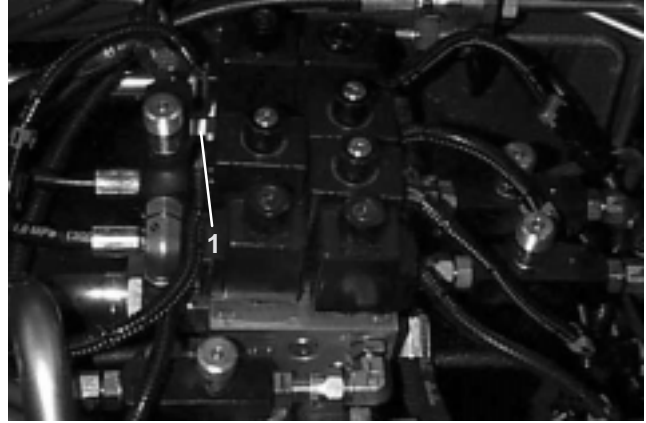

Figure 58
1. Test Port “A” (Fig. 58) is used to assist in trouble shooting the hydraulic circuit for the lift cylinders.